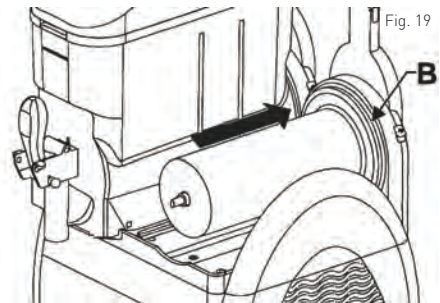

Fig. 19
- Then, insert the bowl seal ring (B) and lubricate with the supplied lubricant around it as below (See Fig. 19).
- Next, insert the auger with the white washer (D) and black washer (E) for the shaft. Rotate the auger to engage it.